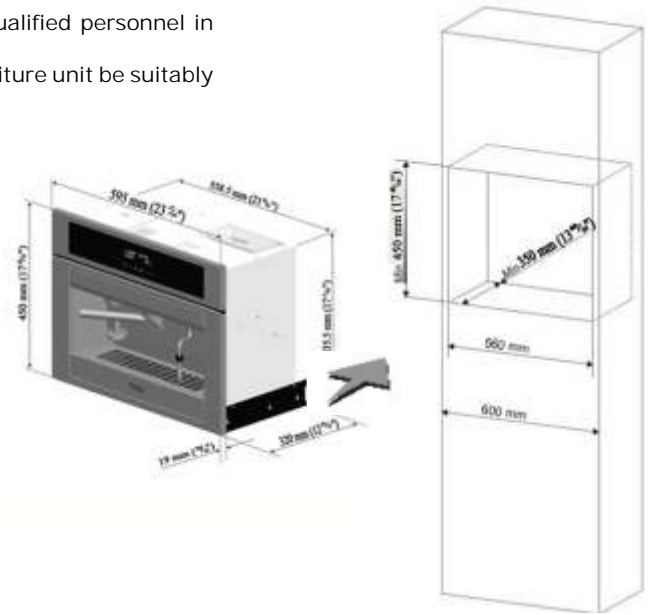

Fig.1
- Check to make sure that the opening for housing the machine has the correct dimensions (Fig.1).